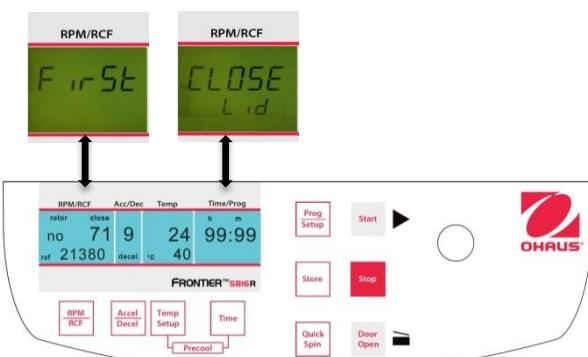
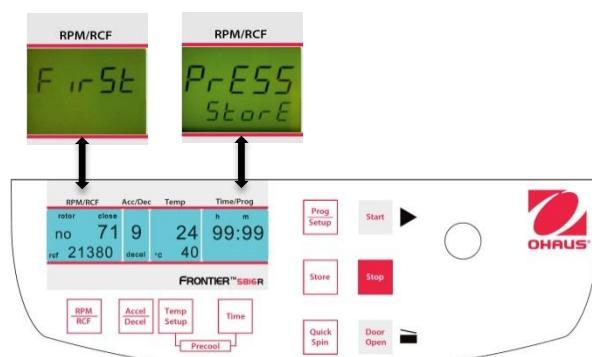

Figure. 23
Figure. 24
Close the lid of the centrifuge. Now proceed as described previously to set all important run parameters. If the lid isn't closed when storing the program, in the display "RPM/RCF" (A-1), the words "FirSt" and "CLOSE Lid" (See figure 23) flashes alternately. If you want to start the run without storing the program, in the display "RPM/RCF" (A-1), the words "First" and "PrESS StorE" (See figure 24) flashes alternately.
For adaption of data press the key "**Store**" (12) (refer to figures 23 and 24) for approx. 1 second. If the program is stored correctly, the word "**StorE**" appears in the display "**RPM/RCF**" (A-1). As a result, the word "**programm**" (M10) disappears.